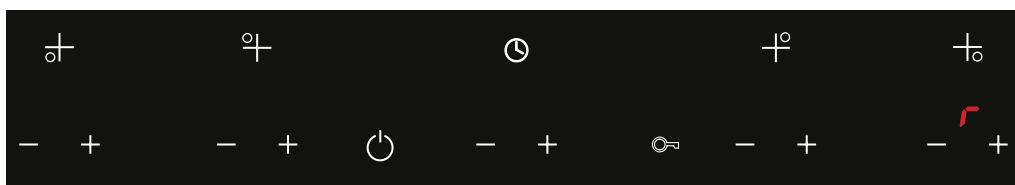

Figure 64
**WARNING:** Setting the temperature level above the power limit set is not allowed. In such a case, the **f** warning is given within 3 seconds on the relevant hob and a **beep** is sound. (See Fig. 64)